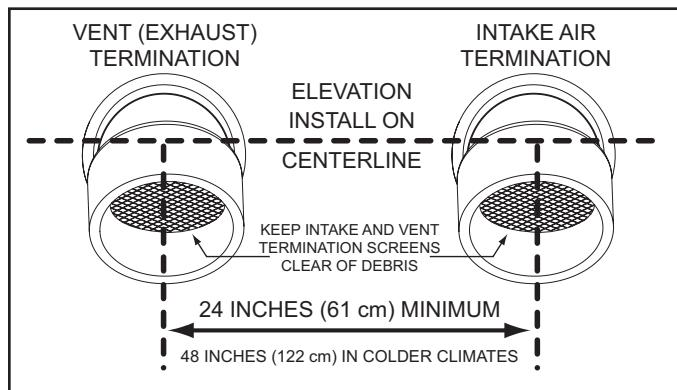

Figure 22. Sidewall Termination - Direct Vent
4. If installing both an intake air and vent termination in a Direct Vent configuration through a sidewall there must be a minimum of 24 inches (61 cm) separation, measured on vertical center line, between the intake air and vent terminations. See *Figure 22*.
5. If installing both intake air and vent terminations in a Direct Vent configuration through a sidewall the intake air and vent terminations must be installed at the same elevation measured on horizontal center line. See *Figure 22*.
However, the distance between the closest vent and intake air terminations must be a minimum of 24 inches (61 cm). In colder climates this separation should be increased to at least 48 inches (122 cm). See *Figure 22* (page 31).